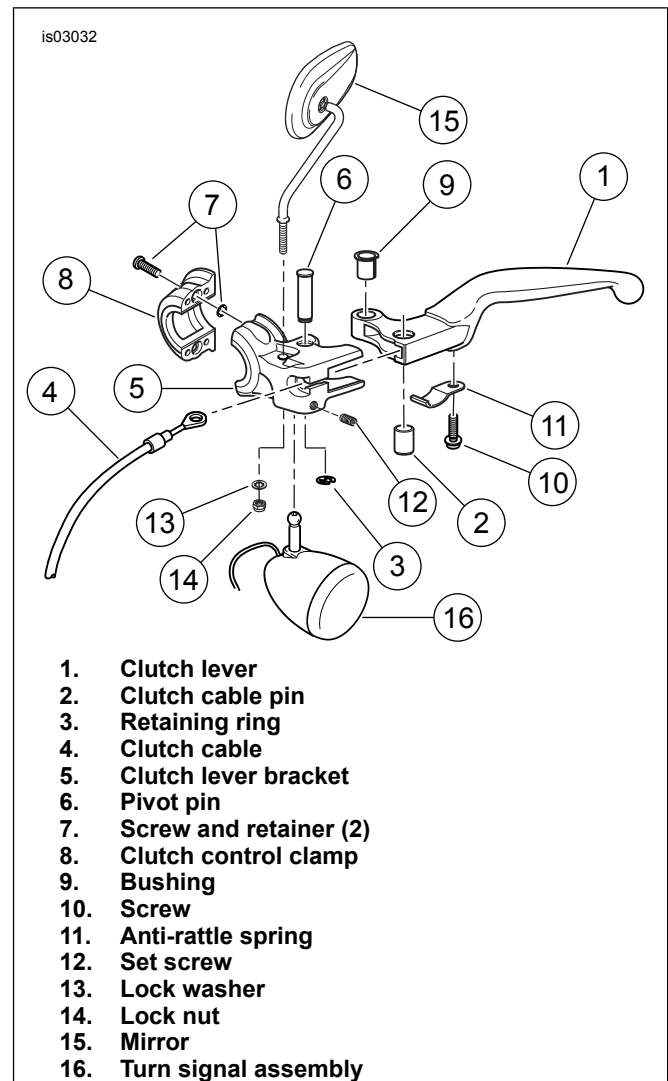

Figure 8. Clutch Hand Control
1. See Figure 8. Remove the retaining ring (3) and pivot pin (6) from the clutch lever (1). Retain the pivot pin, but discard the retaining ring. Remove the clutch lever from the clutch lever bracket (5).
1. Position the new chrome clutch control clamp (8) and clutch lever bracket (5) from the kit onto the left side of the handlebar. Hold the clamp and bracket assembly firmly against the left-side handlebar switch housing. See the Service Parts illustration. Secure the clamp and bracket to the left side of the handlebar using the two new screws, washers (9) and retainers (6). Tighten to 108-132 **in-lbs** (12.2-14.9 Nm).
2. See Figure 8. Re-install the mirror (15), and secure with the lock nut (14) and lock washer (13) removed earlier. Position the mirror for best rearward visibility, then tighten the lock nut to 96-144 **in-lbs** (10.9-16.3 Nm).
3. Install the turn signal (16), and position so the turn signal lens faces directly forward and the turn signal does not strike the fuel tank when the handlebars are turned to the full left position. Tighten the set screw (12) to 96-120 **in-lbs** (10.9-13.6 Nm).